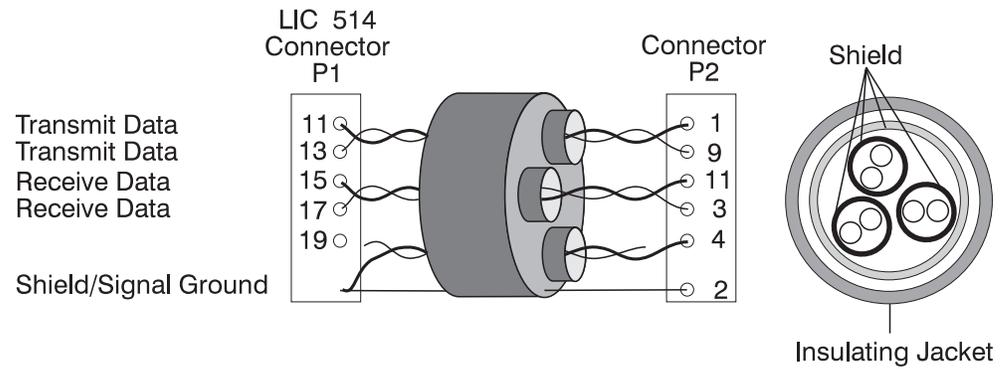

Figure 2-76. LIC514 DB15 Cable Pin Assignment
- Three twisted pairs AWG 24, 100 ohms (see Figure 2-76 on page 2-47).